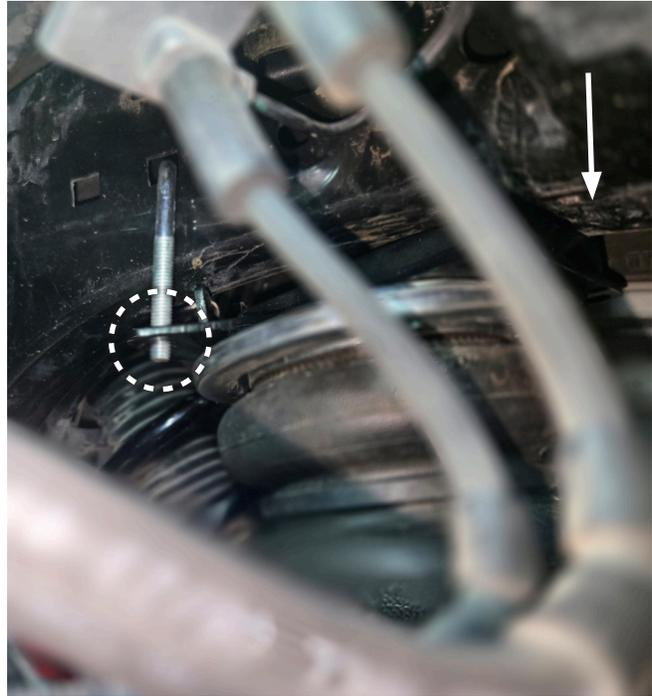

Fig. 17
1. Lower the vehicle until the frame contacts the upper brackets. While lowering the vehicle, guide the previously installed inner J-bolt into the upper bracket (see circled). Additionally, check to make sure the previously installed 3/8-16 X 1" hex-head bolt (J) drops into the upper bracket outside slot while lowering the vehicle. It may be necessary to adjust the positioning of the upper brackets so that they make proper contact with the frame rail. The rear of the upper bracket should contact the raised lip on the frame (see arrow) (Fig. 17).